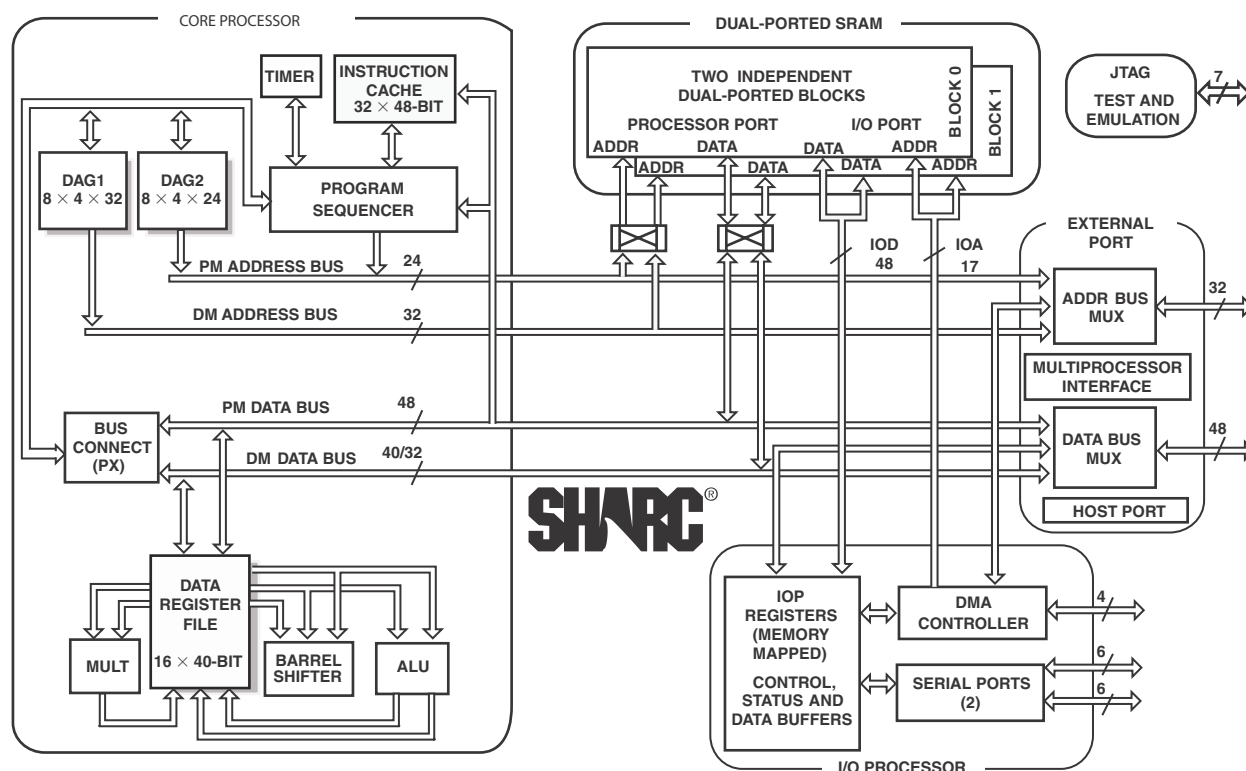

Figure 1. Functional Block Diagram
The ADSP-21061 features an enhanced Harvard architecture in which the data memory (DM) bus transfers data and the program memory (PM) bus transfers both instructions and data (Figure 1 on Page 1). With its separate program and data memory buses and on-chip instruction cache, the processor can simultaneously fetch two operands and an instruction (from the cache), all in a single cycle.